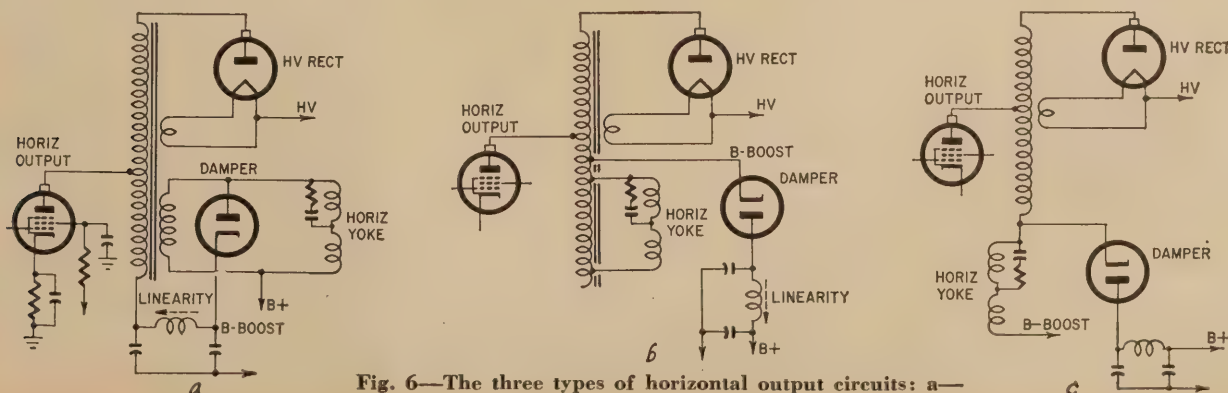

Fig. 6—The three types of horizontal output circuits: a—standard transformer; b—autotransformer; c—direct drive.
1. The transformer circuit uses a separate secondary winding to drive the yoke (Fig. 6-a). B-plus is fed into the flyback through its secondary and the damper tube, and the high rf (the spike of voltage from the flyback action) is applied to the damper's plate. Boost voltage is developed at the damper's cathode and fed back through the linearity-coil circuit and the transformer's primary to the plate of the output tube.
2. The autotransformer circuit has only a single winding, and drives the yoke by connecting it across taps on that winding. B-plus is fed to the plate of the damper through the linearity coil. Boost voltage, of course, appears at the damper cathode and feeds the output tube plate through the flyback winding (Fig. 6-b).
3. The direct-drive circuit uses a simpler flyback that consists of only the plate and high-voltage winding as shown in Fig. 6-c. The yoke is connected in series at the lower end, back to the damper cathode and the boost voltage. Most of these can be identified by the flyback, which does not have an iron core, but either a plastic or paper form. You've noticed, of course, the identical nature of the high-voltage section of the winding on all of these circuits—all are autotransformers with the plate of the high-voltage rectifier connected to the top of the total winding.